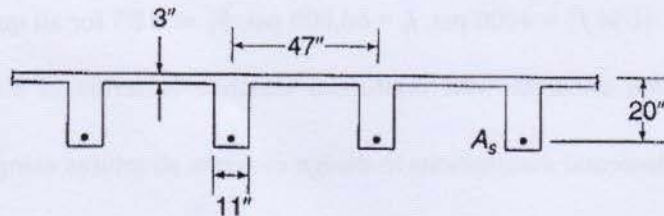

Figure: 3
6. Design a simply supported rectangular beam (dimensions of the beam and steel area) of 15 feet span for moment using USD method. The beam has to carry a uniformly distributed computed dead load (including its self-weight) of 2.50 k/ft and a service live load of 1.5 k/ft. Given, $\phi = 0.9$ (20)
7. A floor system, shown in **Figure 3** consists of a 3" concrete slab of 47" on centers and supported by continuous T beams of 24 ft span. (15)
Dimensions of the beam are $b_w = 11"$ and $d = 20"$ as shown in **Figure 3**. Calculate the required tensile steel area at mid-span to resist a factored moment of 700 kip-ft?